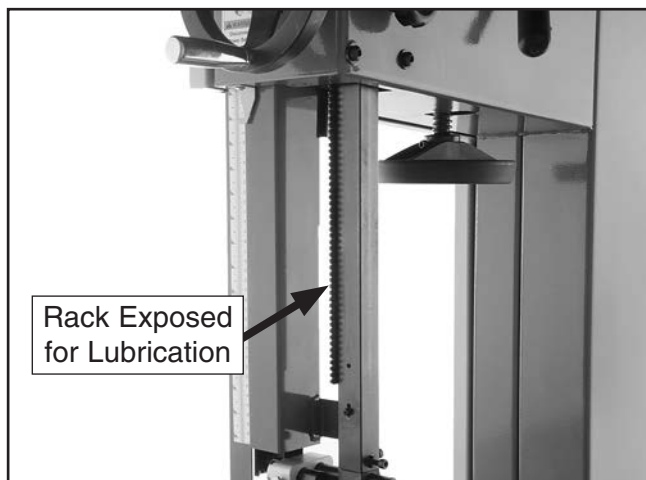

Figure 88. Example of rack lubrication location.
- Using a rag and mineral spirits, wipe off any existing grease and sawdust build-up on the rack (see **Figure 88**).